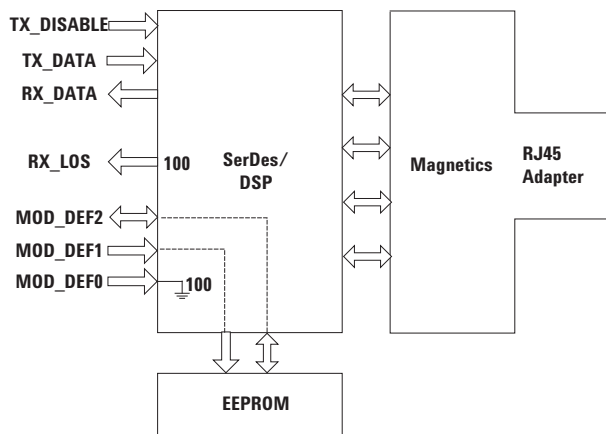
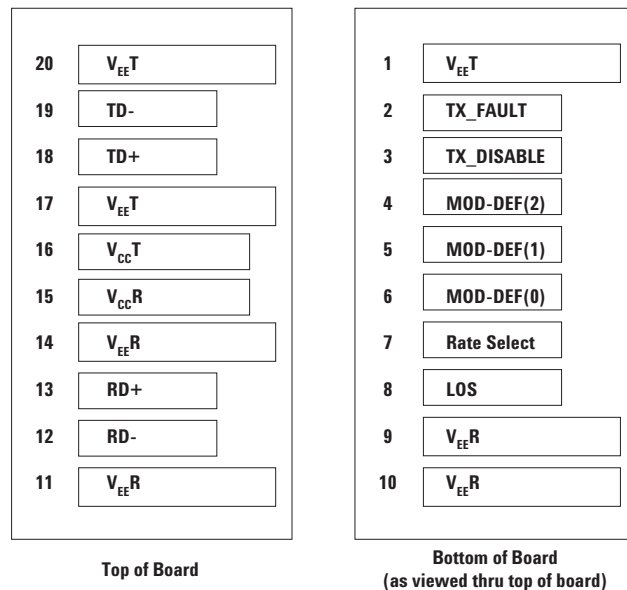
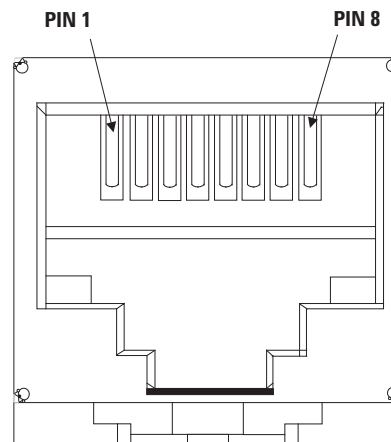

Figure 1. Transceiver Functional Diagram
Figure 2. 20-pin Connection Diagram of Module Printed Circuit Board
Figure 3. MDI ( RJ 45 Jack) Pin Assignment
Figure 1 illustrates the major functional components of the ABCU-5700/5710RZ. The 20-pin connection diagram of module printed circuit board of the module is shown in Figure 2. Figure 3 depicts the pin assignment of the MDI (RJ45 jack).
The ABCU-5700/5710RZ can be installed in or removed from any MultiSource Agreement (MSA) compliant Small Form Pluggable port whether the host equipment is operating or not. The module is simply inserted, small end first, under finger-pressure. Controlled hot-plugging is ensured by design and by 3-stage pin sequencing at the electrical interface to the host board. The module housing makes initial contact with the host board EMI shield, mitigating potential damage due to Electro-Static Discharge (ESD). The module pins sequentially contact the (1) Ground, (2) Power, and (3) Signal pins of the host board surface mount connector. This printed circuit board card-edge connector is depicted in Figure 2.
Data I/Os are designed to accept industry standard differential signals. In order to reduce the number of passive components required on the customer's board, Avago Technologies has included the functionality of the transmitter bias resistors and coupling capacitors within the module. The transceiver is compatible with an "ac-coupled" configuration and is internally terminated. Figure 1 depicts the functional diagram of the ABCU-5700/5710RZ. 100-ohm resistor shown at RX\_LOS in Figure 1 refers to ABCU-5710RZ configuration, not ABCU-5700RZ configuration.